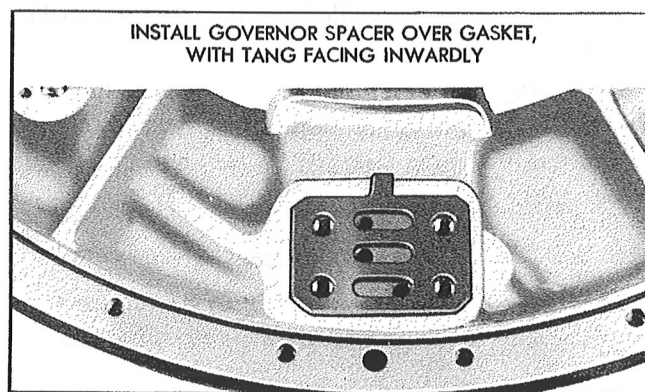

Figure 148—Installation of the Governor
Step 6.—Install the governor spacer plate with the tang pointing toward the center of the regulator housing. See Figure 148.